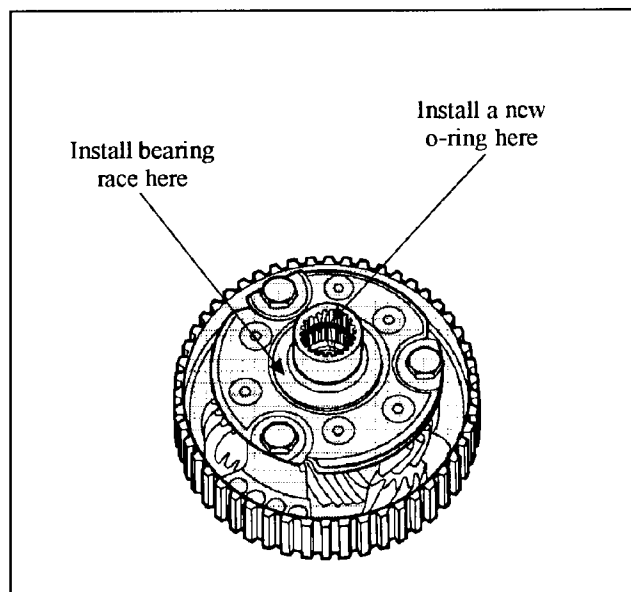

Figure 143
8. Install a new O-ring in the planetary and the bearing race as shown in Figure 143.